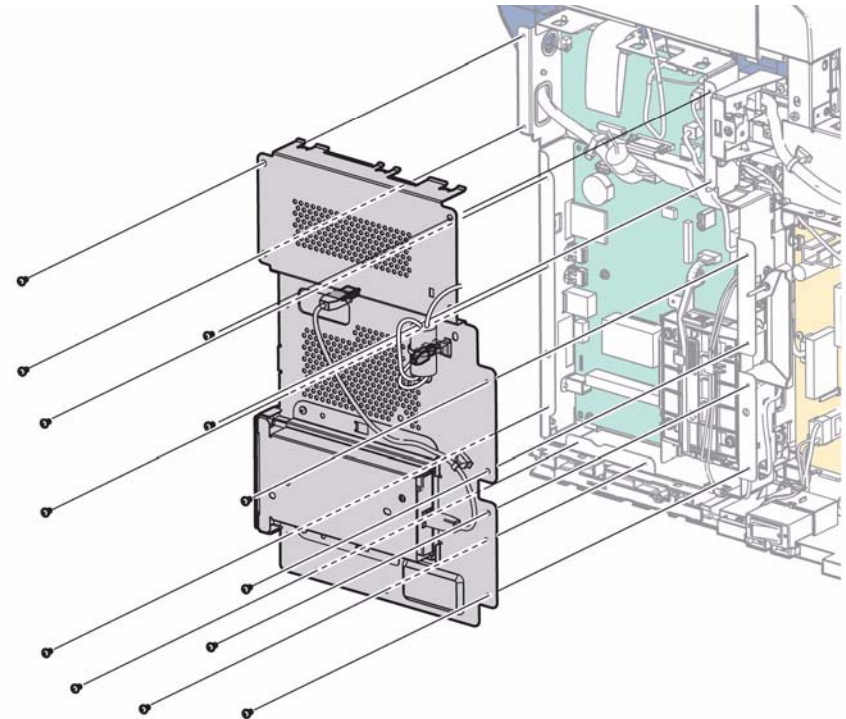

Figure 1 Remove ESS Housing Cover
8. Refer to Figure 1 to locate and remove 13 screws (silver, M3, 6mm) that secure the ESS housing cover.